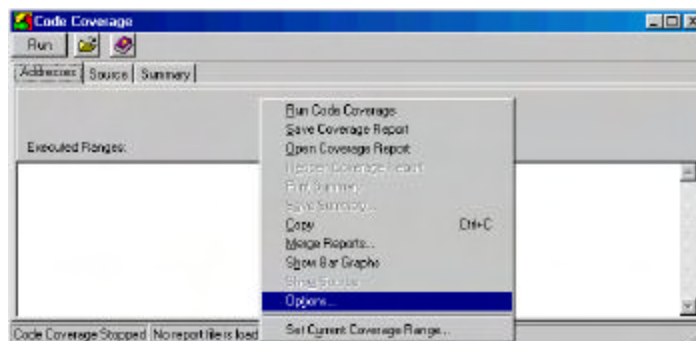

Figure 172. Selecting the Options Menu Item
2. Right-click to open the submenu and select **Options** (Figure 172.) The Code Coverage Options window opens (Figure xxx).